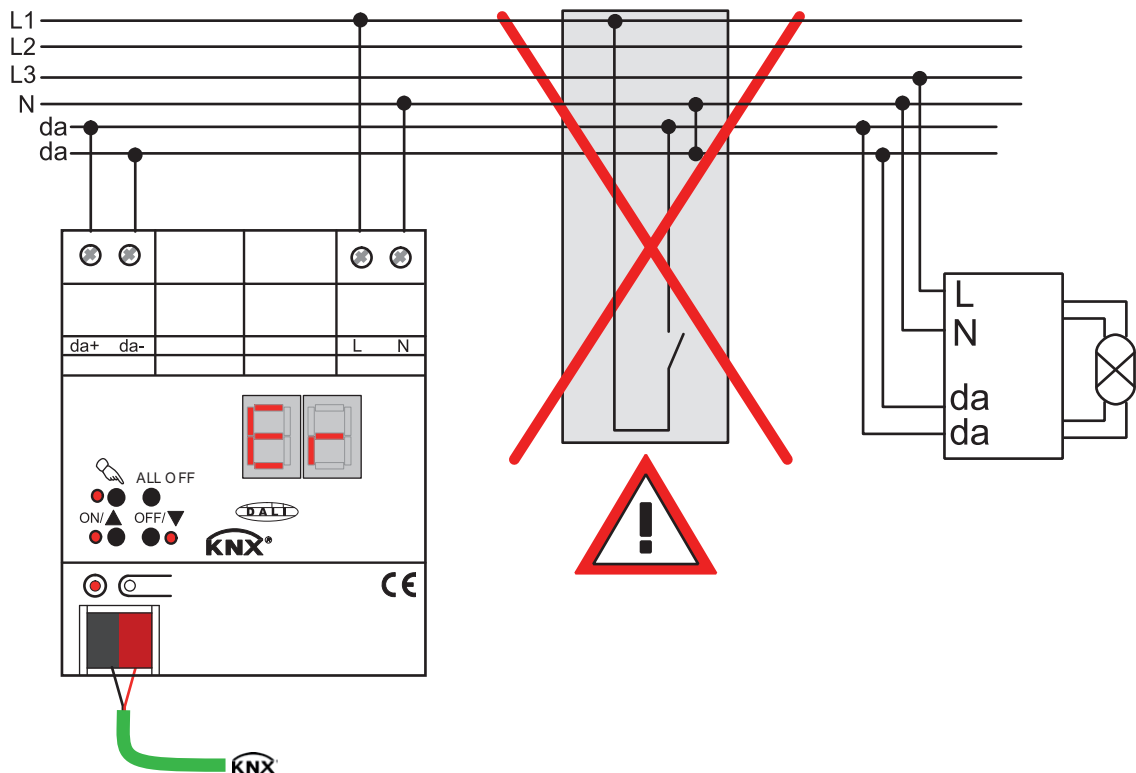

Figure 3: Removing other operating units in the DALI system
- Remove all the appropriate operating units, or ensure that there are no other control sections (Figure 3).